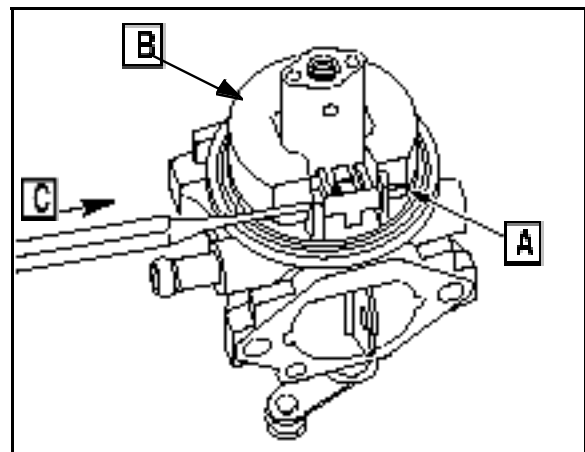

Fig. 127
15. Remove float hinge pin ([A] Fig. 127), float ([B] Fig. 127), and inlet needle.
16. Tap the end opposite the flats with a center punch ([C] Fig. 127) until it is loose.